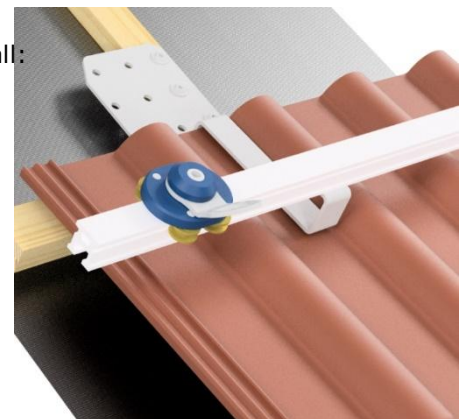

Fig. 1
- a) Bracket **SD-Z II** (tiled roof): see fig. 1